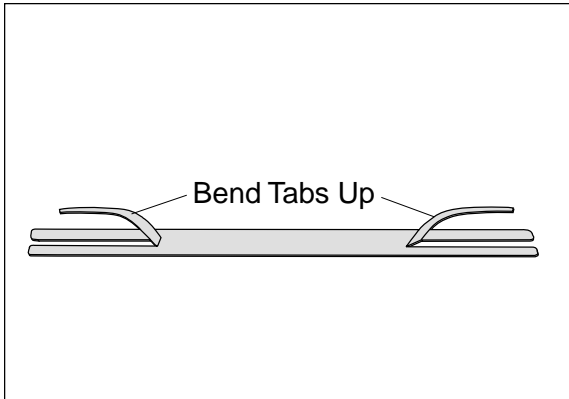

Figure 8
1. Bend tabs to provide a  $\frac{1}{2}$ " dead air space between exhaust pipe and heat shield (Figure 8).